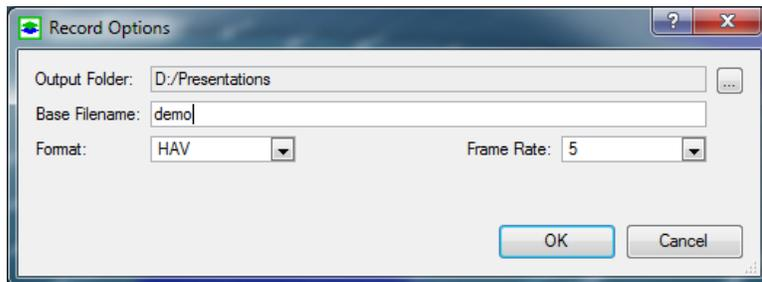

Figure 1.2. The Record Options dialog box
- a) Click the  button to turn on *Recording* feature. When Record is turned on, the Record Options dialog box (Figure 1.2) appears.
- b) Click the  button in Figure 1.2 to select a folder where the video file should be saved, enter the Base Filename, and then select a video format (AVI or HAV) and a desired frame rate (i.e., number of frames per second when the video is played.). AVI is a Microsoft video format that can be played back on most video players. HAV (High quality Audio Video) is a lossless compressed format that can be played back with the free Imagen multimedia player (www.gromada.com).
- c) Click *OK* to create a video file that is ready to store animation sequences. For example, the settings in Figure 1.2) will create a file called *demo.hav* in the *D:/Presentation* folder.